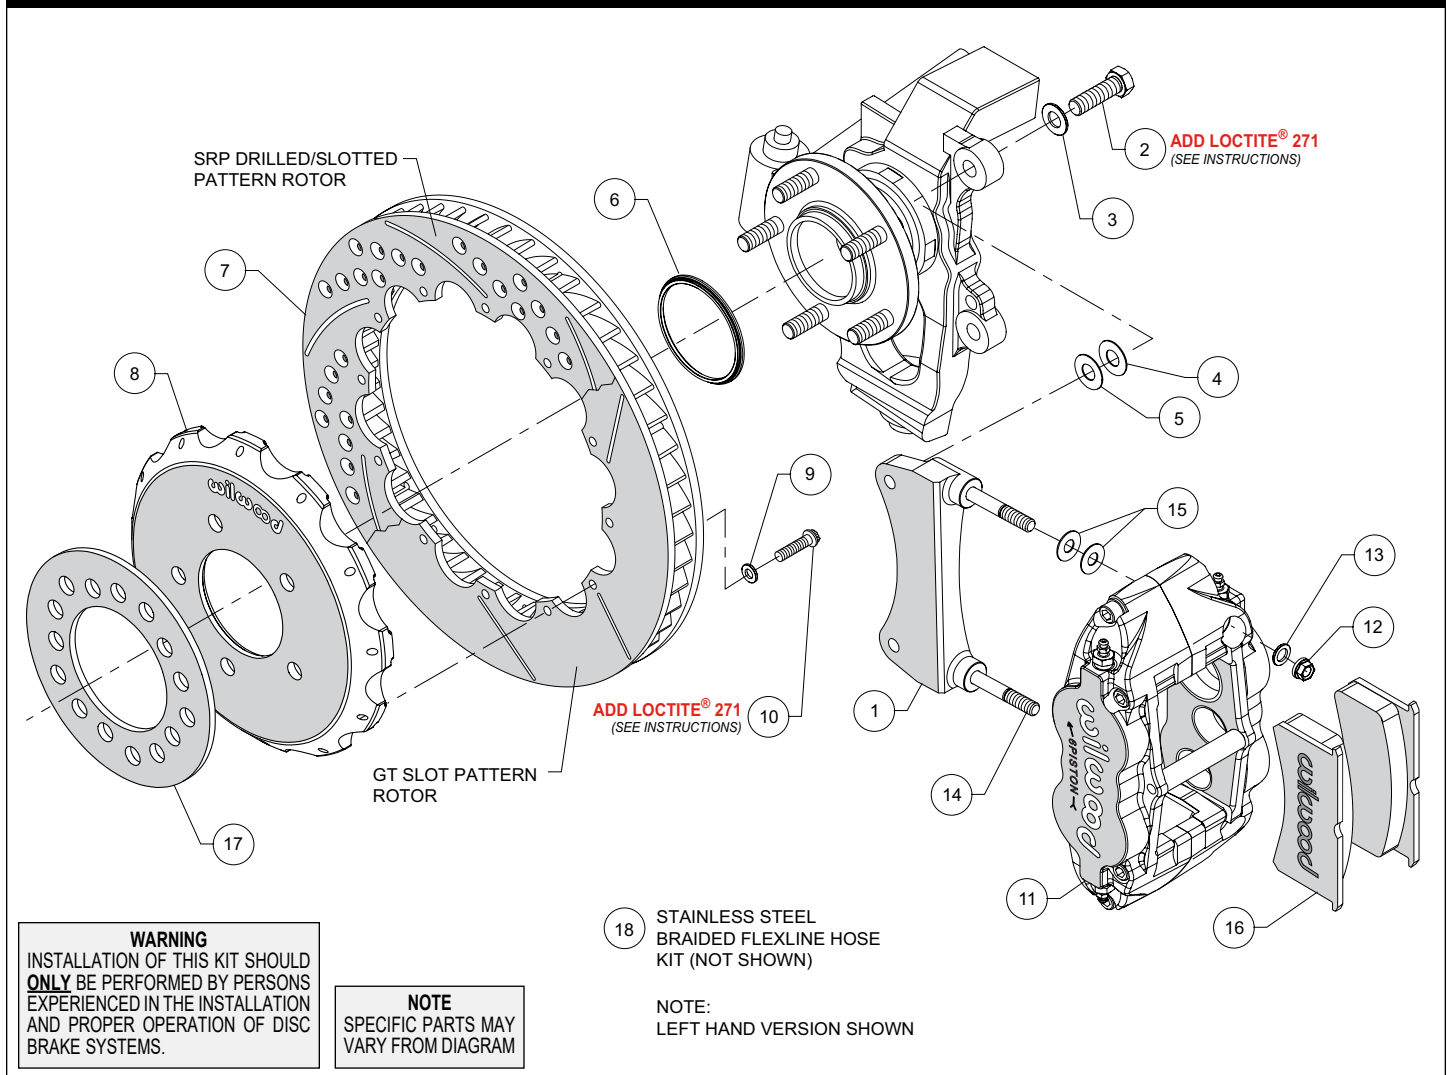
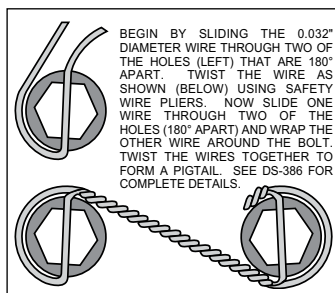

Figure 1. Typical Installation Configuration
Figure 3. Safety Wire Diagram
Assembly Instructions (numbers in parenthesis refer to the parts list and Figure 1 on the preceding pages):
- The caliper mount bracket (1) should initially be installed with clean, dry threads on the mounting bolts. Orient the bracket as shown in Figure 1 and Photo 1, and install using washers (3) and bolts (2). Initially place one .033 thick shim (4) and one .015 thick shim (5) on each bolt between the bracket and upright, Figure 1. Temporarily tighten the mounting bolts. **NOTE: The bracket must fit squarely against the mount bosses on the upright.** Inspect for interference from casting irregularities, machining ridges, burrs, etc. Later, after the caliper alignment has been checked, the mount bolts will be secured using red *Loctite*® 271.
- Orient the rotor (7) and the hat (8) as shown in Figure 1 and Photo 2. Attach rotor to hat using bolts (10) and washers (9). Apply red *Loctite*® 271 to the bolt threads and torque to 155 in-lb using a criss-cross pattern. For an added measure of security, the bolts may be safety wired using standard 0.032 inch diameter stainless steel safety wire as shown in Figure 3. Please refer to Wilwood's data sheet DS-386 (available at www.wilwood.com/Pdf/DataSheets/ds386.pdf) for complete safety wire installation instructions.
- Slide the rotor registration adapter (6) onto the axle register on the axle hub with the smaller O.D. facing outward, Photo 3. Slide the hat/rotor assembly onto the axle hub. **NOTE: The hat must fit flush against the axle hub flange or excessive rotor run out may result.** Install three lug nuts (finger tight) to keep the hat/rotor assembly in place while continuing with the installation.
- NOTE: This kit contains distinct right and left hand calipers that must be mounted in a specific direction, as described below.** Initially place two .035" thick shims (15) on each stud (14) as shown in Figure 1 and Photo 4. Mount the caliper (11) onto the bracket (1) using lock nuts (12) and washers (13), Figure 1. Ensure that the caliper is mounted so that the largest pistons are at the rotor exit end of the caliper, in relation to the direction of rotor rotation. Temporarily tighten the lock nuts and view the rotor through the top opening of the caliper. The rotor should be centered in the caliper, Photo 5. If not, adjust by adding or subtracting shims (4 and/or 5) between the bracket and the upright. Always use the same amount of shims on each of the two mounting bolts. Once the caliper alignment is correct, remove the bracket mounting bolts (2) one at a time, apply red *Loctite*® 271 to the threads, and torque to 60 ft-lb.
- Install the wheel spacer (17) against the hat face, Figure 1 and Photo 8. **NOTE:** *Spacer is required to clear stock wheels.* Temporarily install the wheel and torque the lug nuts to the manufacturer's specification. Ensure that the wheel rotates freely without any interference.